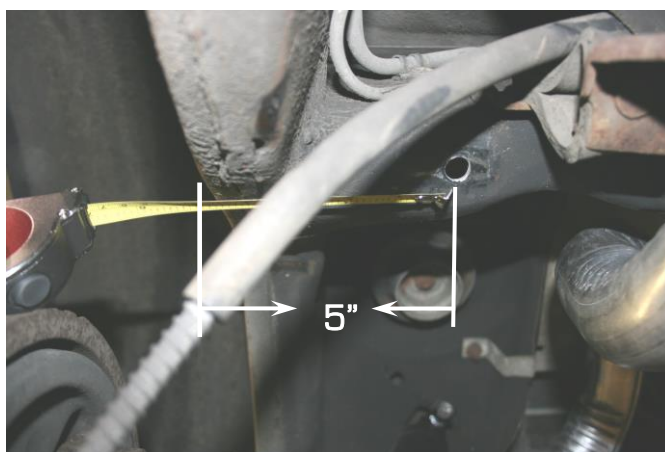

Figure 1 - Locating the Upper Link Mount Hole (Driver Side Shown)
2. It is necessary to locate and drill four holes for the sway bar end links to mount to the upper link mount crossmember. Measure from the outside of the frame rail toward the center of the car 5". Mark this location on the flat surface of the crossmember. At the marked location, drill two 3/8" diameter hole. Drill another 3/8" diameter hole .800" outboard of the first one. Repeat this procedure on both driver and passenger side. Refer to Figure 1 below for an example.